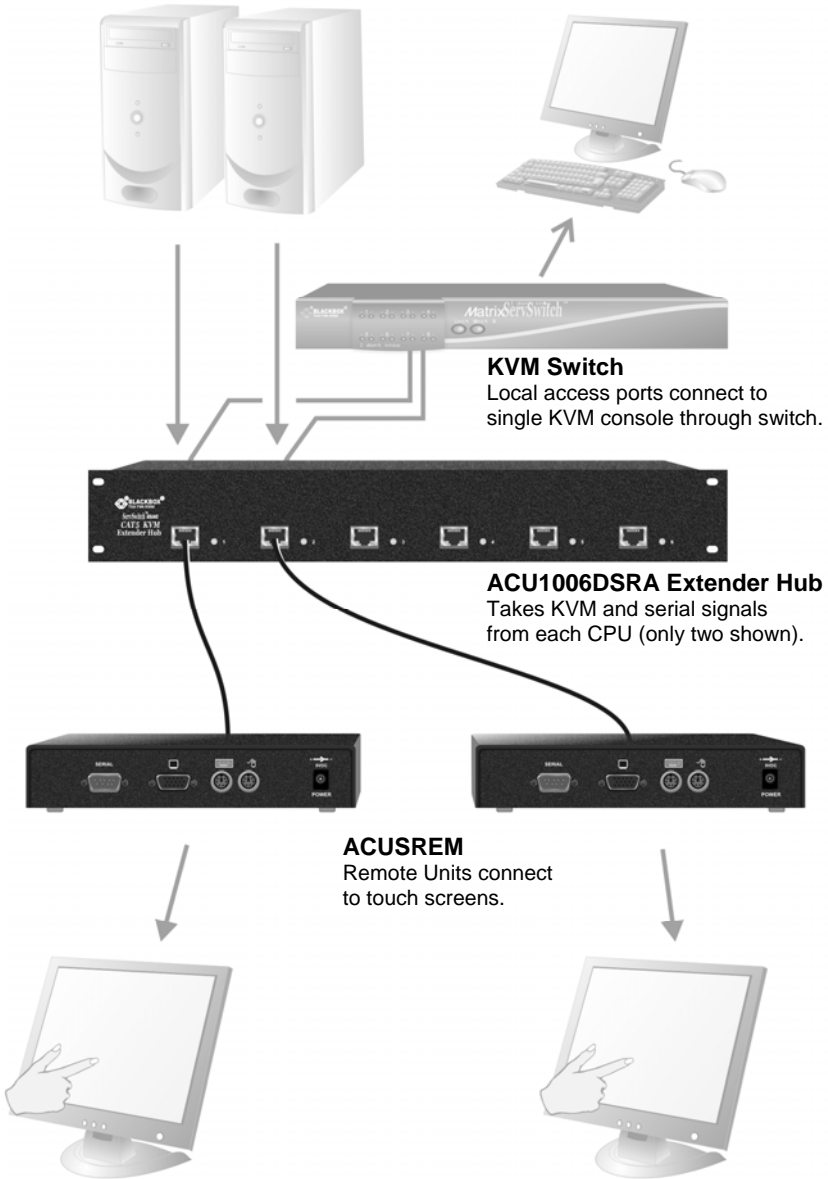

Figure 7 Touch screen network with local access to CPUs through KVM switch
- Six remote serial touch screens with local access through a KVM switch (Figure 7).